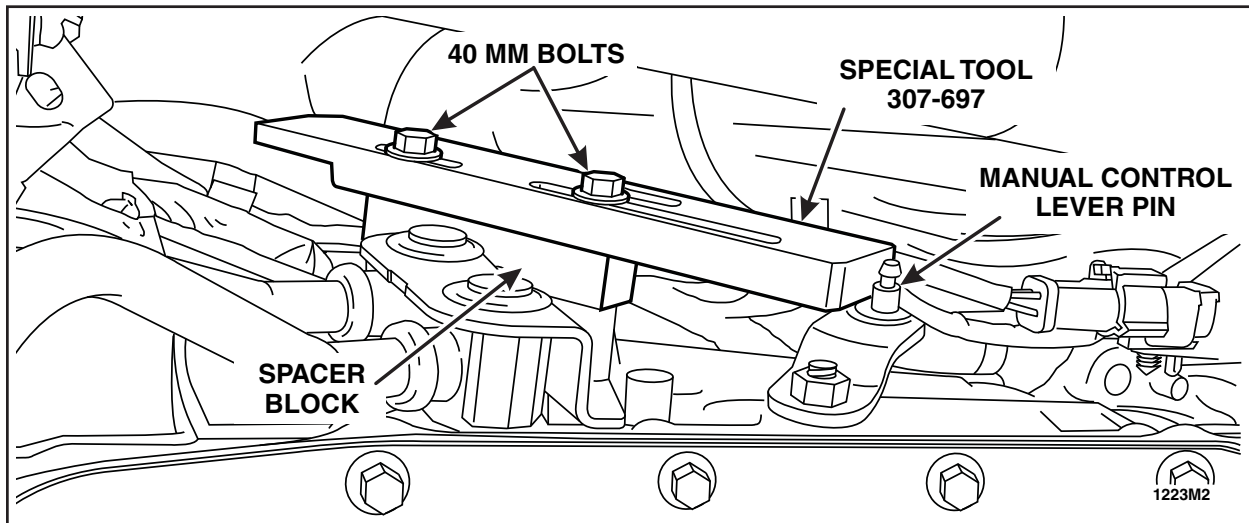

FIGURE 4
10. Install the special tool 307-697 onto the transmission. See Figure 4.